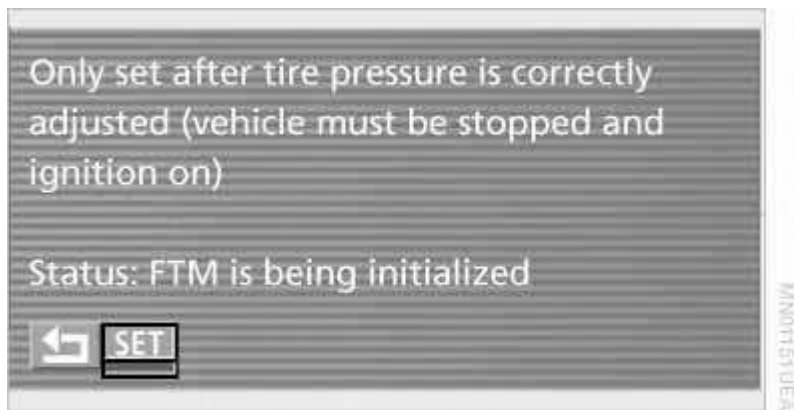

Fig. 14: Identifying TPM System Reinitialization Messages (2 Of 2)
5. Drive vehicle. The message "FTM IS BEING INITIALIZED" will be displayed. See **Fig. 14**.